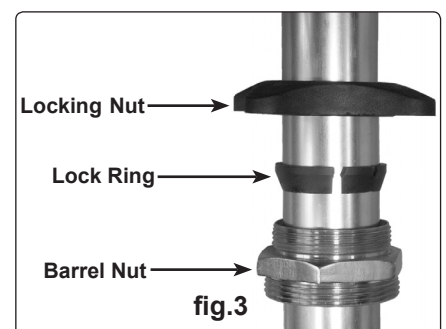

fig.3
- 3.2.5 Slide the locking nut, locking ring and the barrel nut onto the pick up probe of the pump (fig.3), screw the locking nut onto the barrel nut to lock the assembly to the pick up probe.